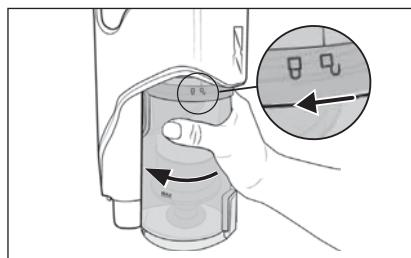

Fig. 19
- 2) To remove the dust container 7 from the appliance, turn it towards the symbol □ (open) until it can be detached from the appliance (see Fig. 19).